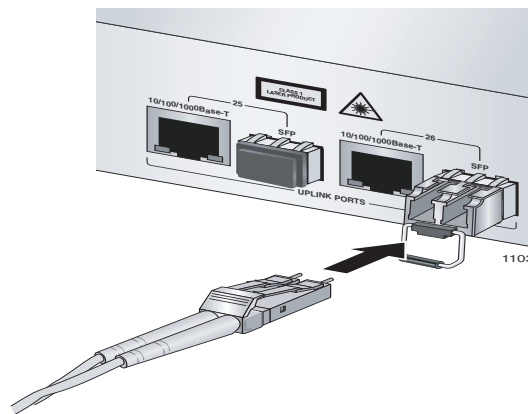

Figure 15. Connecting the Fiber Optic Cable
2. Connect the fiber optic cable to the SFP port, as shown in Figure 15.